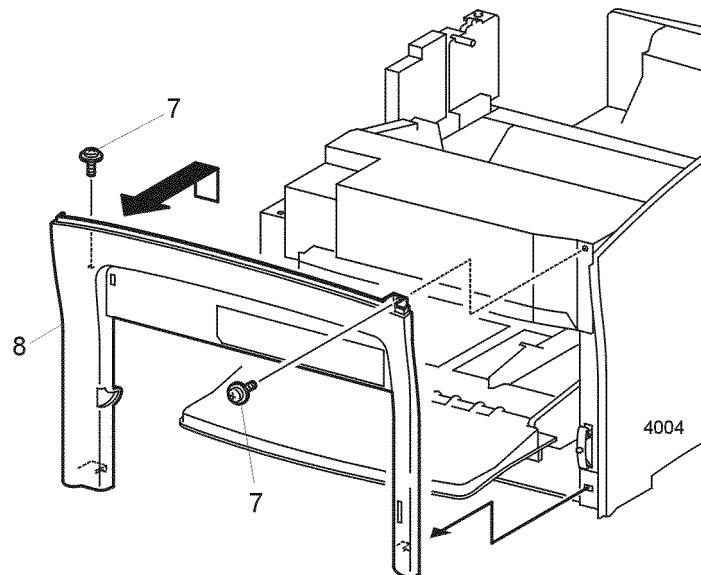

Figure 1 Front Cover
7. Remove the 2 screws that secure the Front Cover to the printer (Figure 1).
8. Pull the Front Cover out then up to remove (Figure 1).